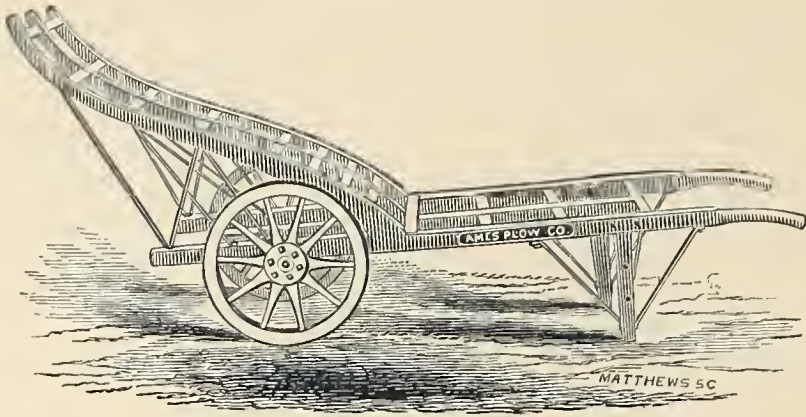

Fig. 512. — Railroad Baggage-Truck.
*The Way-Station Baggage-Truck* is similar to the RAILROAD TRUCK illustrated at *Fig. 512*, and described below, but smaller. As its name indicates, it is used at small railroad-stations.
*The Railroad Baggage-Truck*, represented by *Fig. 512*, is the most approved pattern of two-wheel trucks for railroad and express use; and large numbers are sold. It is strongly made, the best material being used, and is thoroughly ironed and braced; it is finely painted and lettered to order. Two sizes are made, the illustration representing the larger size.